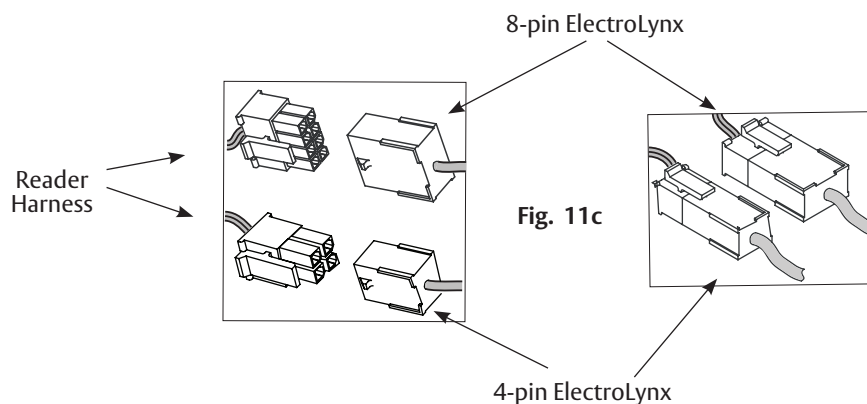

Fig. 11c
- c. Connect ElectroLynx 4- and 8-pin connectors from the door harness to (black) 4- and 8-pin connectors of the reader harness (Fig. 11c).